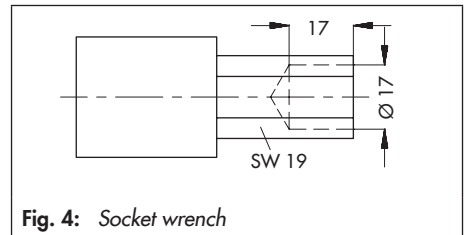

Fig. 4: Socket wrench
4. For valve sizes DN 15 to 25, unscrew the guide nipple with plug section (3) using a socket wrench (order no. 1280-3001) or a self-made wrench made from a Gedore screwdriver bit (IN 19-19), for example, by drilling a 17 mm hole with a 17 mm diameter into the 19 mm hexagon bit (Fig. 4). Pull out the guide nipple. For valve sizes DN 32 to 50, unscrew the stopper first and pull out the plug section.